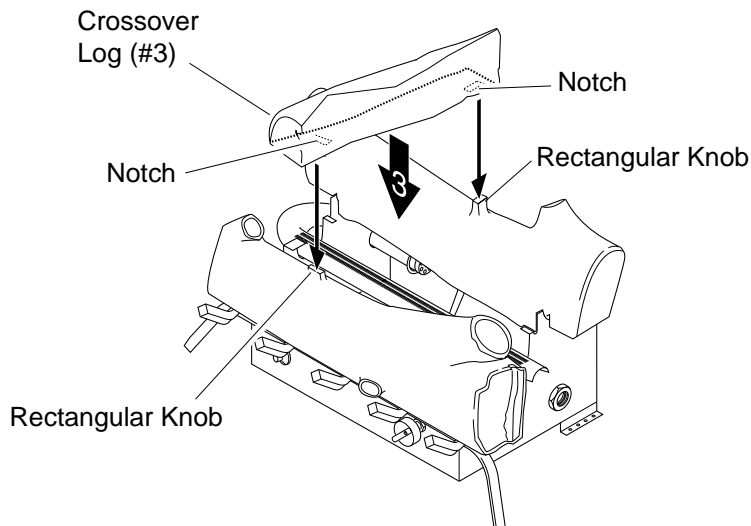

Figure 19 - Installing Crossover Log
3. Locate the notches in the bottom of the crossover log (#3). Place the crossover log on top of the back log and front log. Make sure the notches of the crossover log line up with rectangular knobs on top of the back and front logs (see Figure 19).